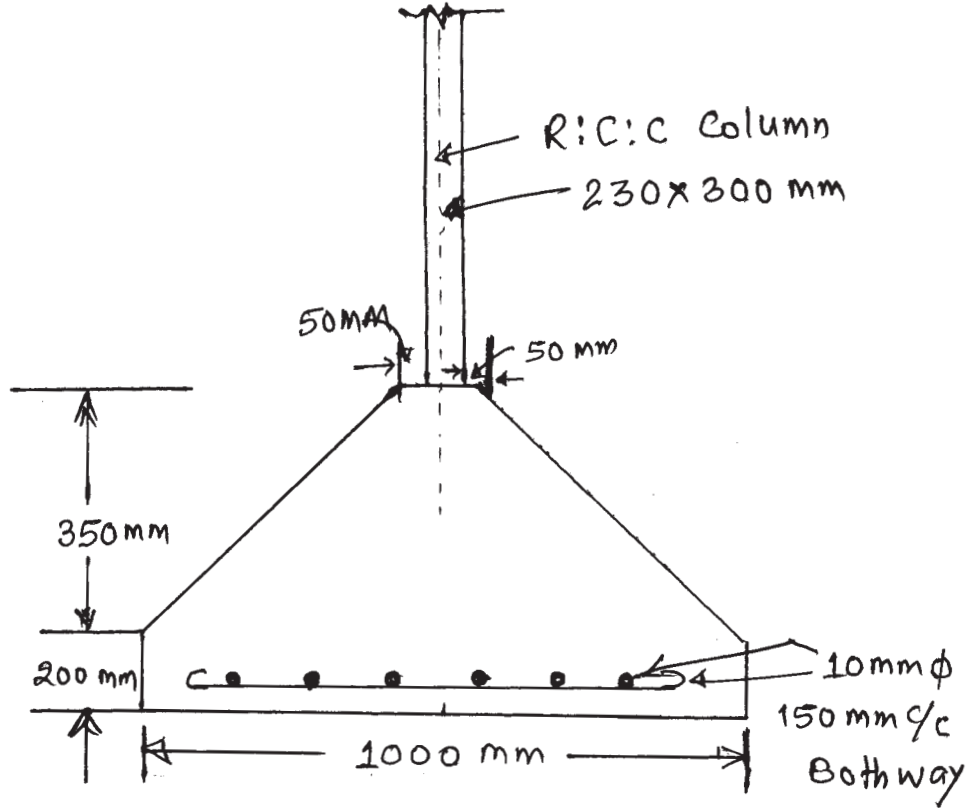

Fig. No. 1
- c) Work out quantity of 10 mm ϕ reinforcement in footing shown in Figure No. 1 and prepare schedule of reinforcement.